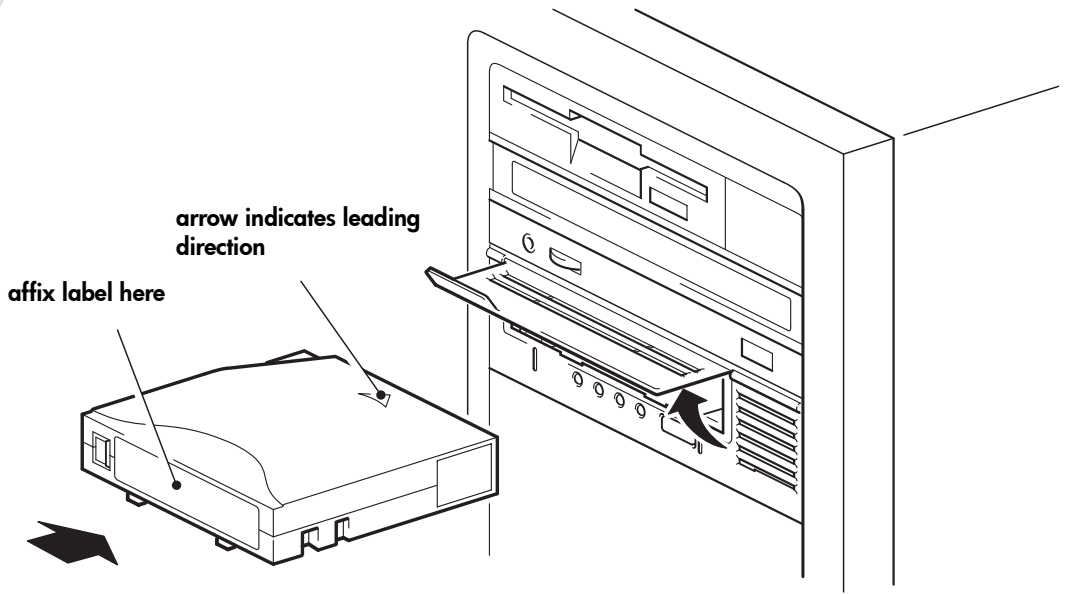

Figure 9a: loading a cartridge
- 1 Lift the cartridge door and insert the cartridge into the slot in the front of the drive with the white arrow uppermost and facing the drive door. Apply gentle pressure until the drive takes the cartridge and loads it. (See Figure 9a.)